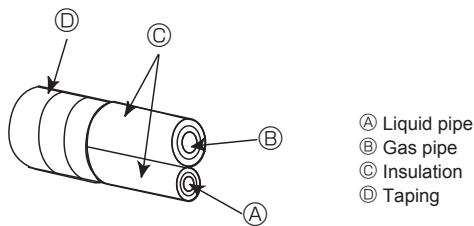
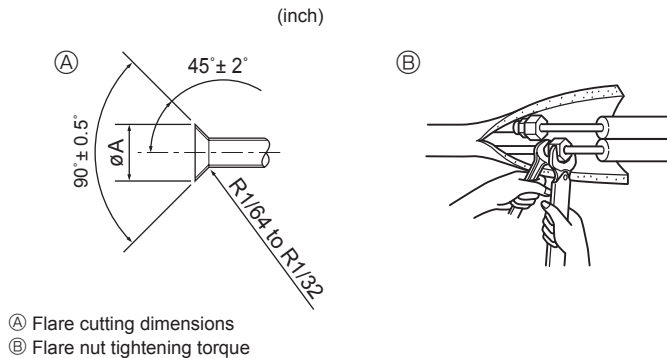

Fig. 4-4
Fig. 4-5
4.3. Connecting pipes (Fig. 4-4, Fig. 4-5)
[Fig. 4-5]
(A) (Fig. 4-5)